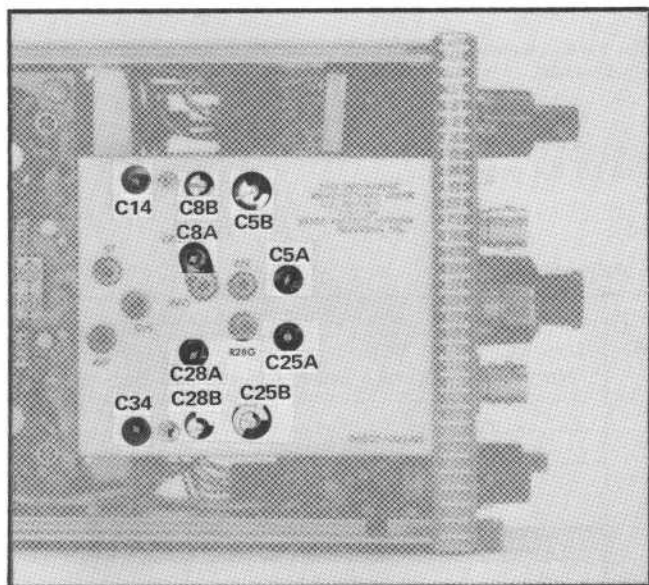
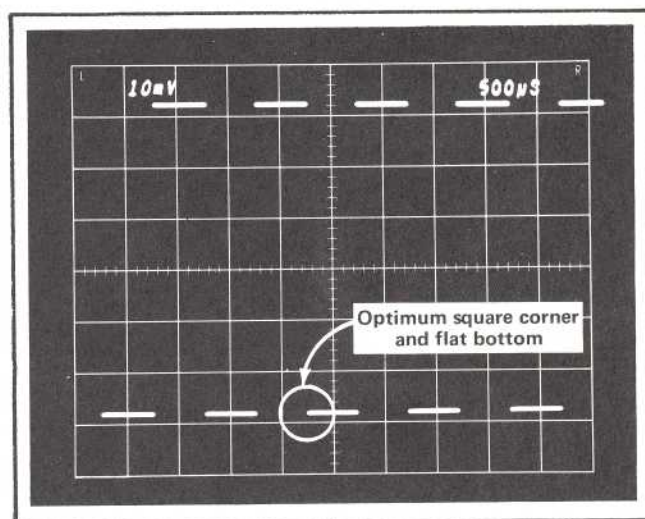

Fig. 5-18. Adjustment locations used in the Attenuator Compensation Adjustments procedure.
Fig. 5-19. Checking for optimum —INPUT waveform at sweep rate of .5 ms/div.
Figs. 5-17B through 5-17E are some waveform examples obtained when the adjustments were misadjusted. Fig. 5-18 shows the location of the adjustments.
h. CHECK—The waveform should have a flat bottom as illustrated in Fig. 5-19. Aberrations should not exceed $\pm 1\%$ or ± 0.06 division for a 6 division peak-to-peak display.
i. ADJUST—The —INPUT shunt capacitance C34 and the attenuator adjustments listed in Table 5-5 for a square lower front corner and flat bottom (see Fig. 5-19). The procedure used here is similar to the procedure used in performing step 18. Fig. 5-18 shows the locations of the adjustments.